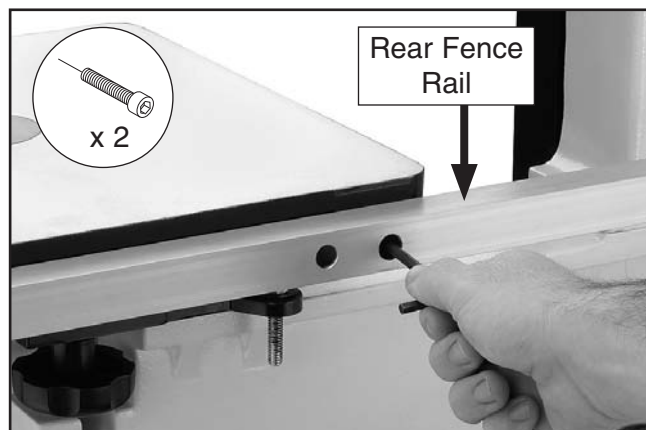

Figure 16. Installing rear fence rail.
- Attach the rear fence rail to the rear of the table with (2) 1/4"-20 x 5/8" cap screws, as shown in **Figure 16**.